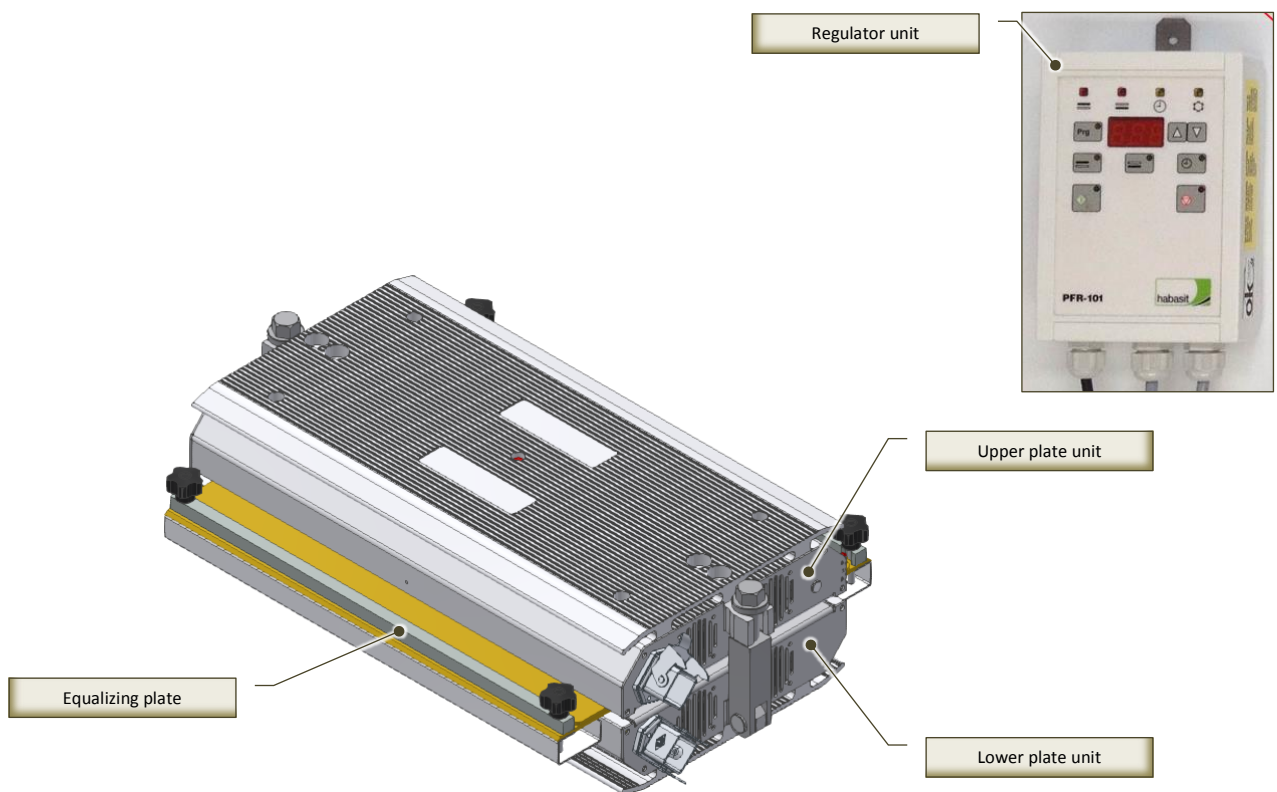

Fig. 5-1 - Hot pressing device
The Hot pressing device (Fig. 5-1), PML-100 / PML-200 / PML-300 / PML-600 model, is a machine which has been designed and manufactured in order to enable the hot joining of Fabric belts and HabaSYNC Timing belts.
- N° 1 hot pressing device (Fig. 5-1) with user manual;